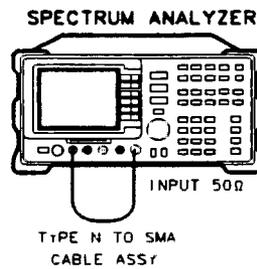

Figure 4-5. Frequency Span Accuracy Test Setup (Spans ≥ 500 MHz)
1. Connect the equipment as shown in Figure 4-5.